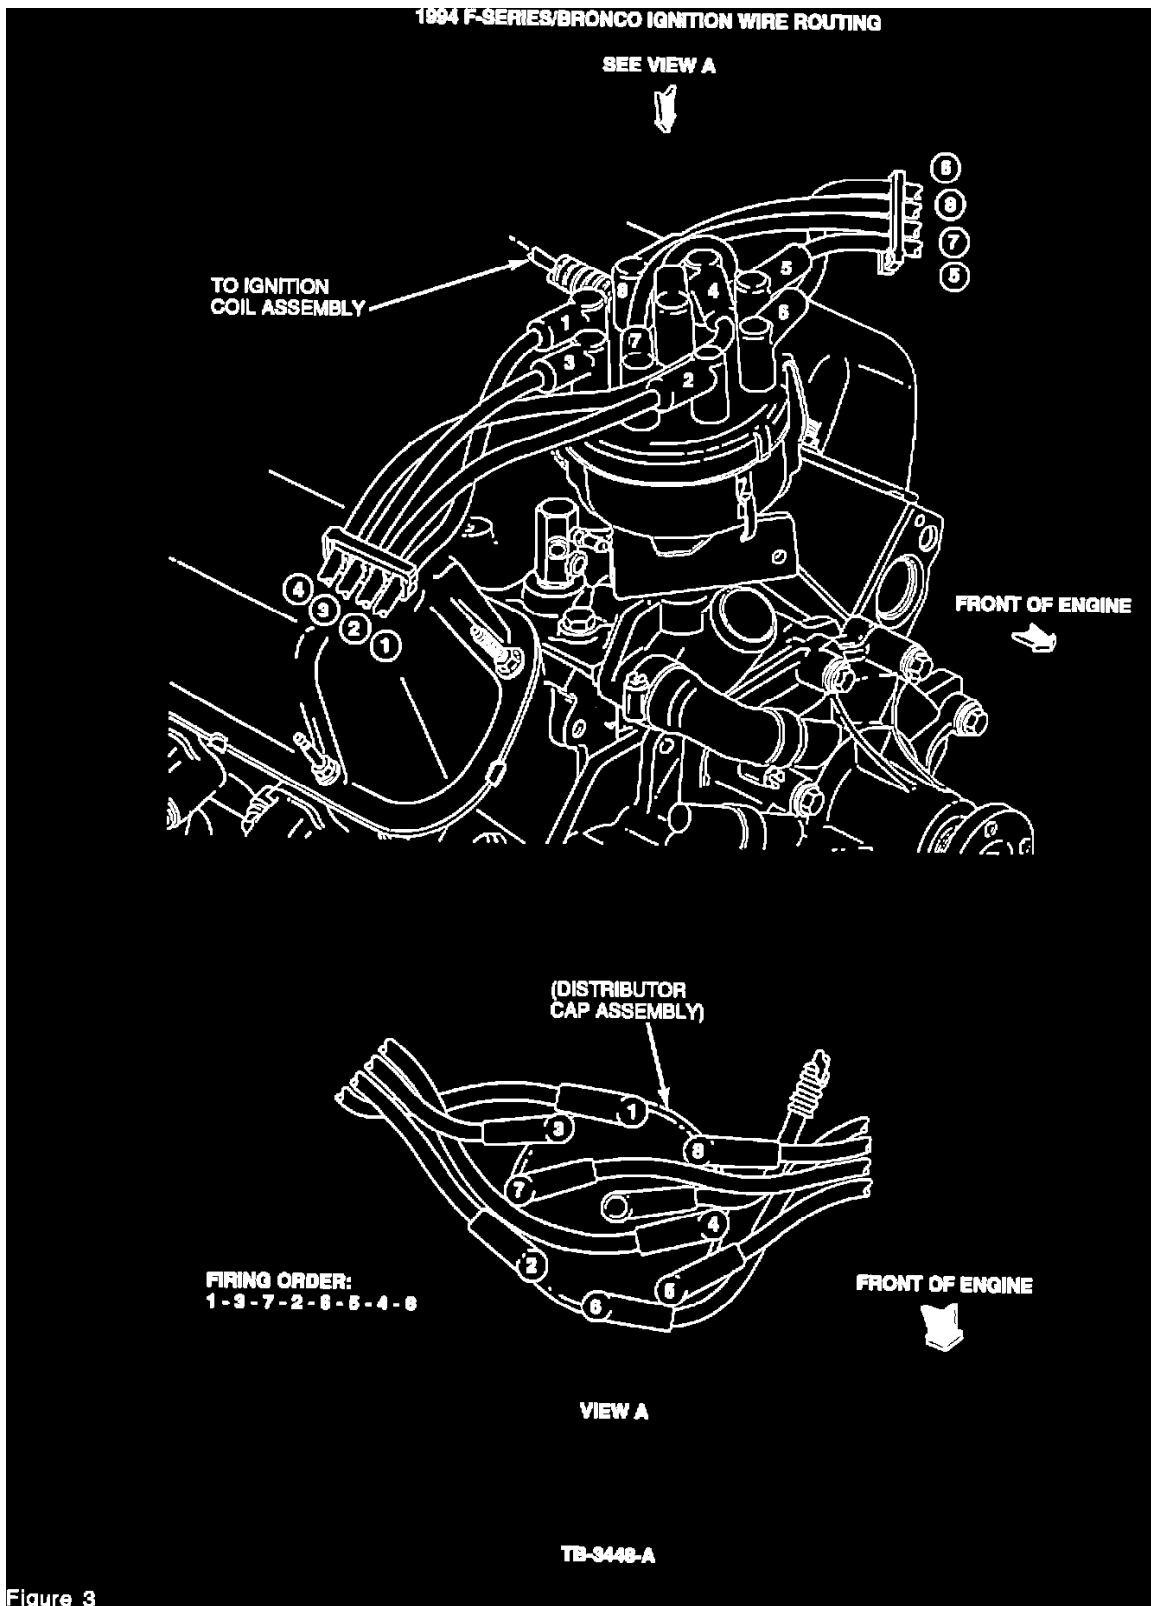

Figure 3
1. Inspect the routing of the spark plug wires. Refer to Figures 3 and 4.